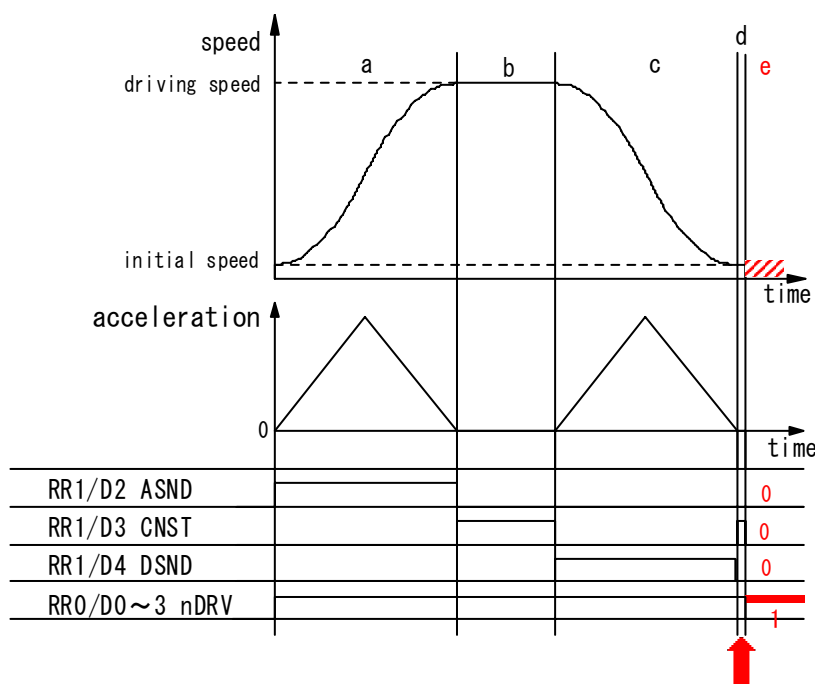

Figure 3. Status of deceleration shown by RR1 register
Deceleration status of accelerating(ASND), constant speed driving(CNST) and decelerating(DSND) can be read out according to RR1 register of IC. The status is shown as Figure 3. as below;
The timing when the trouble may possibly happen is shown as “d” on Figure 3. At this time, status of deceleration is constant speed driving(CNST=1). Besides in case the trouble such as outputting pulse continuously happens, all of ASND, CNST and DSND will become 0 even though it’s driving(RR0/nDRV=1).
Basically once deceleration starts, it isn’t necessary to execute deceleration stop command. Therefore deceleration stop command should be prohibit. See nRR1/D4(DSND) normally to know it’s decelerating or not. Timing when the trouble happens is in “d” as shown on Figure 3 if deceleration stop command is executed. In “d” DSND status bit is 0 and CNST status bit is 1. Therefore the following two(2) solutions will be proposed.
(1) When interruption from IC can be used
Terms when deceleration stop command should be executed in accelerating and constant speed driving such as "a" and "b" on Figure 3. Status of deceleration for both "d" (timing when the trouble happens) and "b" (constant speed driving) is same as constant speed driving as shown on Figure 3. But there is difference of driving speed between two. Driving speed in "b" is near that of setting driving speed. Driving speed in "d" is near that of initial speed. Therefore before driving starts, prepare judgmental speed which is middle one between initial speed and setting speed ($(\text{Driving speed} - \text{initial speed})/2 + \text{initial speed}$). When execute deceleration stop command during driving, make sure status is accelerating(ASND=1) or constant speed driving(CNST=1) and driving speed is same or faster than judgmental speed.
Constant speed area ("b" area) on Figure 3 is set as occurrence factor of interruption. But this interruption is also happened when there is "d" area just before driving stops on Figure 3 such as when driving speed reaches initial speed or when acceleration becomes 0(zero). There should occur "d" area definitely if the trouble is happened just before driving stops, driving speed hasn't reached initial speed yet, acceleration becomes 0 and decelerating stop requirement is executed. The measure is to judge if the trouble happens or not in the timing of interruption when "d" area ends.
- ① Check if driving goes out constant speed area or not. If RR3/D5(C-END) bit of driving axis is 0, there are other interruption factors. Execute those interruption processing.
- ② Check if driving goes into decelerating area or not. If it's RR1/D4(DSND)=1, make it finished as it goes because driving goes into "c" area from "b" area on Figure 3. If it's RR1/D4(DSND)=0, move it to ③ processing because driving has gone out "d" area.
- ③ Check if driving has finished or not. If it's finished, make it finished as it goes because driving has finished normally. But if it's not finished yet, surely trouble have happened because status is shown as it's still driving even though driving has gone out "d" area.
- ④ Check if hard limit is ON or OFF. Since RR1/D12 bit becomes 1 if + limit is ON and RR1/D13 bit becomes 1 if - limit is ON, if it's D12=1 or D13=1, judge forward limit is ON.
- ⑤ If trouble has happened, it becomes ASND=CNST=DSND=0. Check them all.
- ⑥ Execute sudden stop command(27h).
(2) When interruption can't be used
In "d" area on Figure 3, if forward limit is active, the trouble will happen, more exactly saying, it will seldom happen. There isn't any method to avoid it before it happens. So immediately after the trouble happens, take means to stop driving. If the trouble happens ("e" area on Figure 3), status keeps driving(RR0/nDRV=1), status of acceleration/deceleration is 0 in ASND, CNST, DSND. This is completely abnormal state. So the example of measure is shown as follows;